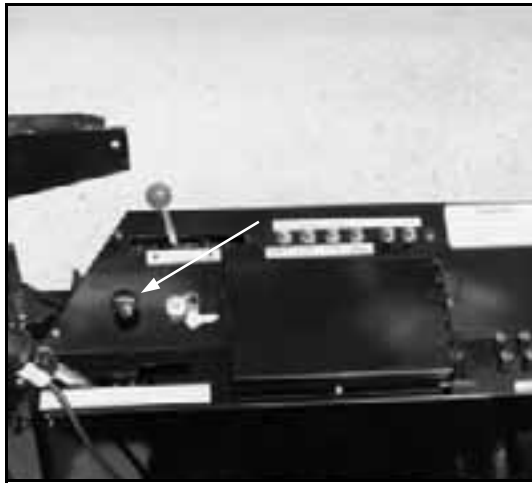
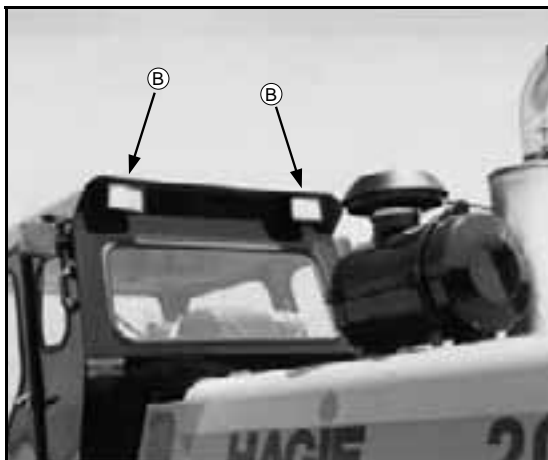
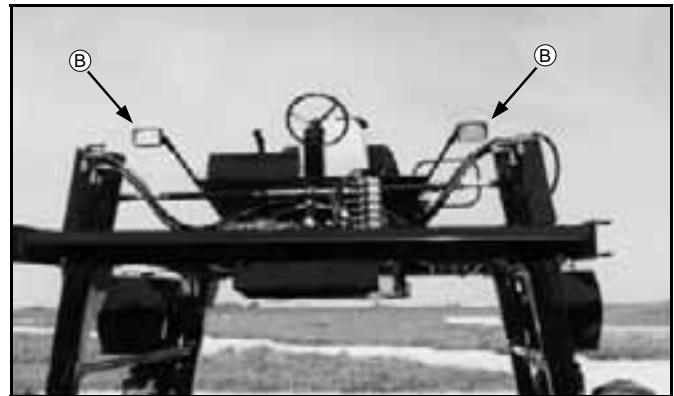
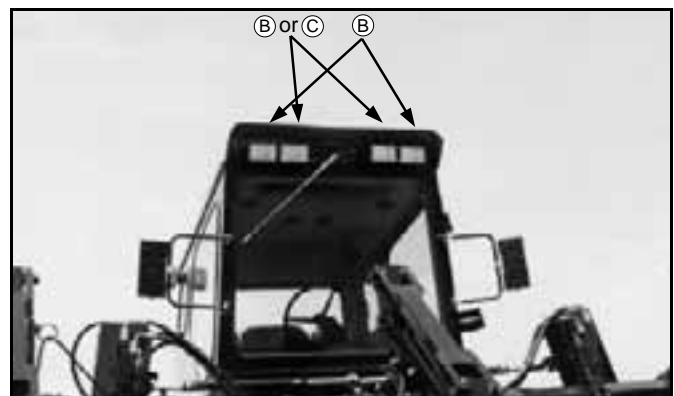

FIG 5.46
FIG 5.48
FIG 5.49
FIG 5.50
**WORK LIGHTS** – The front of the standard operator's station houses two halogen work lamps (fig. 5.49). The front of the optional canopy or cab houses four halogen work lamps (fig. 5.50) and the rear houses two halogen work lamps (fig. 5.48). Locate the light switch on the console panel (fig. 5.46). Pulling the switch out to the first "ON" position (fig. 5.47B) will activate all available lights. Pulling the switch out to the second "ON" position (fig. 5.47C) will deactivate the two outer front cab lights in addition to the two rear work lights (cab or canopy only).